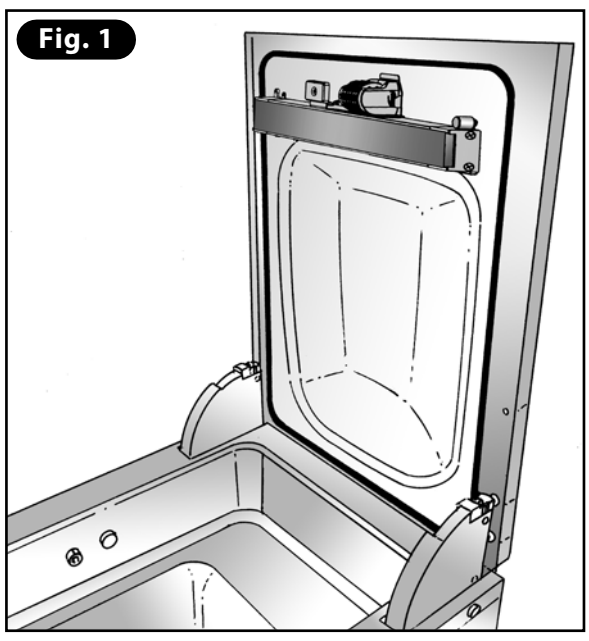

Fig. 1
- 1) Open the Plexiglas cover as far as possible (95°) (**Fig. 1**).
- 1) Open the Plexiglas cover as far as possible (95°) (Fig. 1).